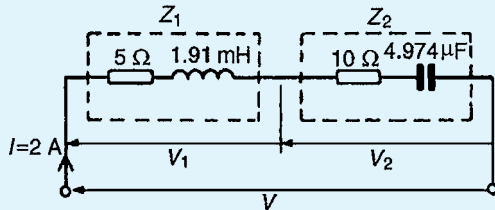

Figure 15.20
4. For the circuit shown in Fig. 15.20 determine the voltages V_1 and V_2 if the supply frequency